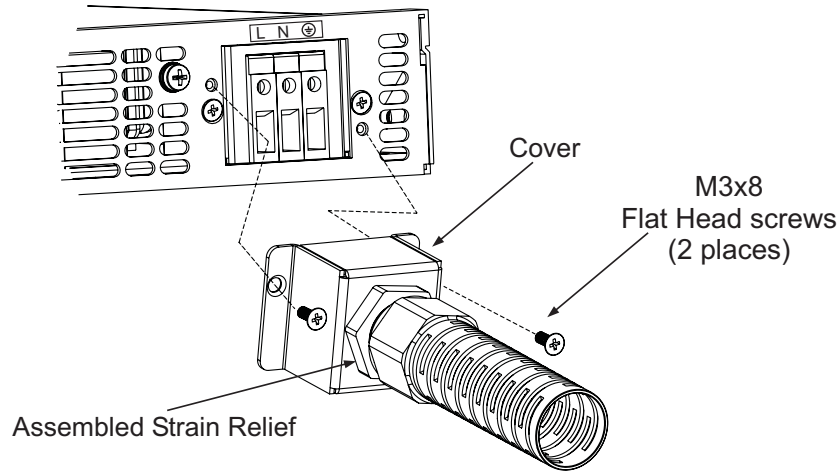

Fig.3-3: AC input cover and strain relief, 1500W models
- 5.Route the wires inside the cover to prevent pinching. Fasten the cover to the unit using the M3x8 Flat Head screws are provided. Refer to Fig.3-3 for details.